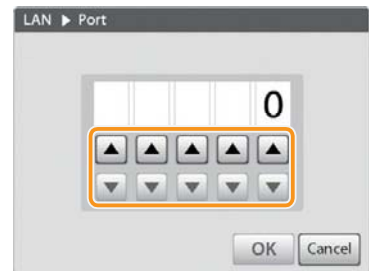

Figure 3-101
2. Tap ▲ or ▼ to input the communication port of the destination PC/server you want to set. (Figure 3-101)